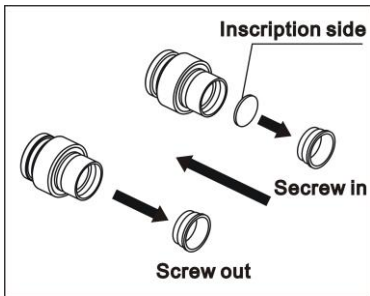

Figure 8
- (1) Take off the mounting ring from eyepiece. (Fig. 8)
- (2) Clean the micrometer and mount it into mounting ring, make sure the inscription side up. (Fig. 8)
- (3) Mount the mounting ring into eyepiece.
- (4) To remove the micrometer, please take off the mounting ring first. Then take out the micrometer and wrap it with clean and soft paper for storage.